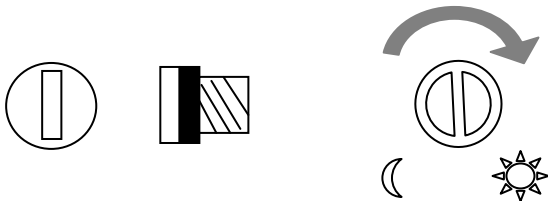

Fig 3.
- Fig 3. Photocell sensitivity